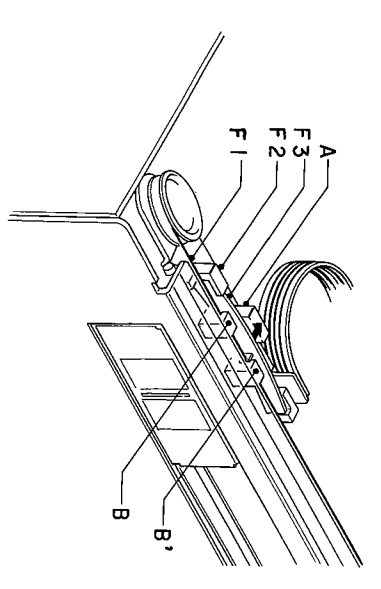
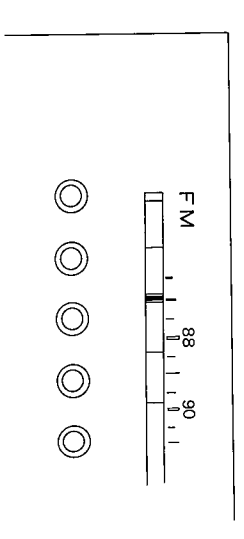

Fig. 5.8
Fig. 5.10
(5) Referring to Figs. 5.8 and 5.9, hold the protrusion A of F2 (Light Intercepting Box) and F3 (Stopper Spring) with pliers. Set F1 (dial thread) into the groove on the protrusions B and B' of Light Intercepting Box and return the Stopper Spring to its initial position (remove the pliers). Note: In setting the dial threading the Light Intercepting Box, fully turn Tuning Dial counter-clockwise so that the red pointer on Dial Scale is fitted to the graduation next to the left end as shown in Fig. 5.10.